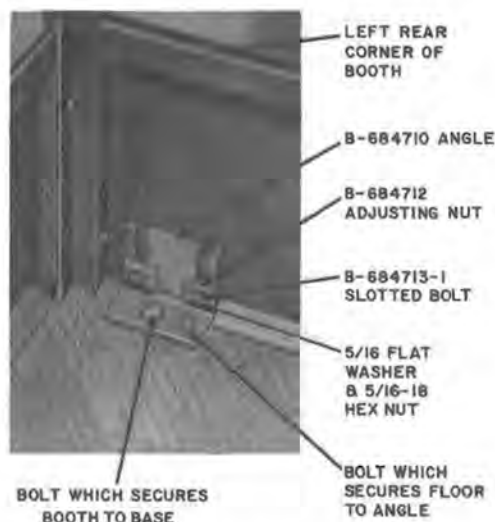

Fig. 7—Booth Anchoring Bracket
- 2.20** Four adjustable brackets (Fig. 7) are provided to permit leveling and anchoring.
- (a) If a KS-19580, List 28 foundation template is used, remove insert plugs from template and secure anchor brackets (Fig. 7) of booth to template using four 3/8-16 by 1-1/4 hex head bolts, four 3/8-inch lockwashers, and four 3/8-inch flatwashers.
- (1) Mark the locations for four mounting holes.
- (2) Drill the four holes to accept machine bolt anchors for 3/8-16 by 1-1/4 bolts. See Section on Machine Bolt Anchors.
- (3) Install the fasteners.
- (4) Secure anchor brackets of booth to fasteners using four 3/8-16 by 1-1/4 hex head bolts, four 3/8-inch lockwashers, and four 3/8-inch flatwashers.
- (1) Mark the location for four mounting holes.
- (2) Drill four lead holes to accommodate 5/16 by 2-1/2 inch lag screws.
- (3) Secure booth to floor using the four 5/16 by 2-1/2 inch lag screws, four 5/16-inch lockwashers, and four 5/16-inch flatwashers.
- (d) Adjust the anchor brackets (Fig. 7) if necessary, and ensure that the booth is level.